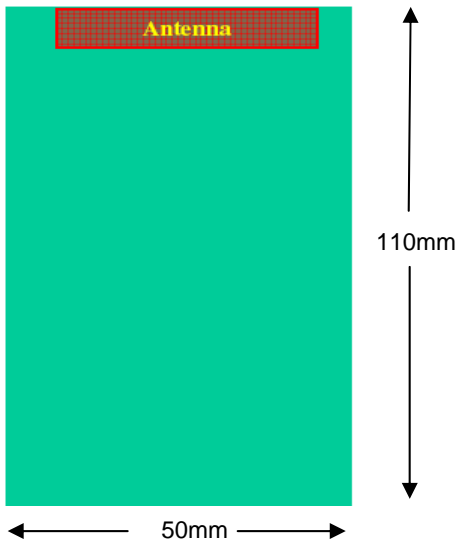

Figure 4
1. Figure 4 shows a typical landing location of a Prestta Penta-Band Embedded Cellular Antenna.